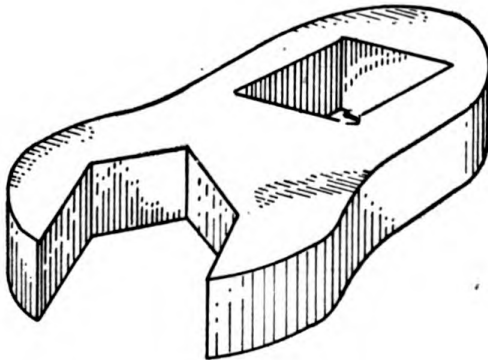

Figure 35. Starter and generator stud-nut wrench.
*n.* **STARTER AND GENERATOR STUD-NUT WRENCH.** (1) This is a small wrench about 2 inches long. One end is open and fits the attaching nuts of the starter and generator. The other end has a square hole for an extension bar. (See fig. 35.)
(2) An open-end wrench will fit the attaching bolts on a starter and generator, but cannot be used because the magnetos are in the way. With the starter and generator wrench, the extension bar allows the handle to reach behind the accessories where its swing is not hindered.